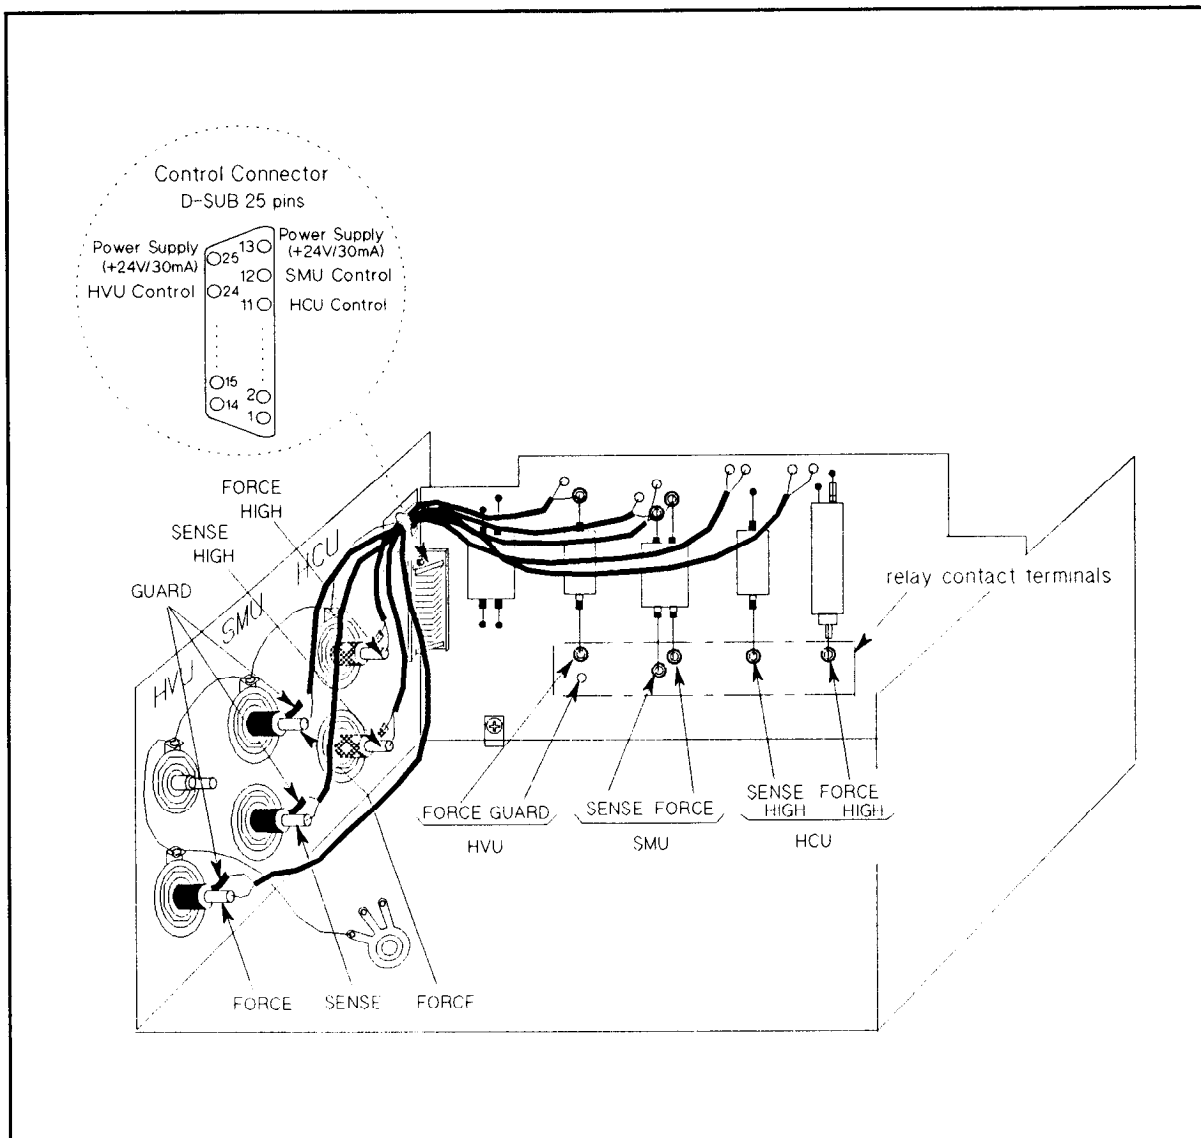

Figure 7-2. Locations of Connectors and Relay Contact Terminals
Figure 7-2 shows the locations of connectors on the rear panel and relay contact terminals.
- ¹ Junk the lock washers attached to the triaxial connectors and use lock washers (5) shown in figure 7-2.